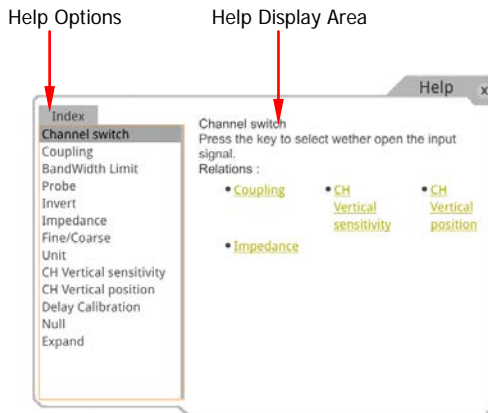

Figure 15 Help Information
2. Press **Content** on the front panel or tap the "Content" menu item, and then the help information is displayed on the screen, as shown in Figure 15. The help interface mainly consists of two sections. The left section lists "Help Options", and the right section is the "Help Display Area".